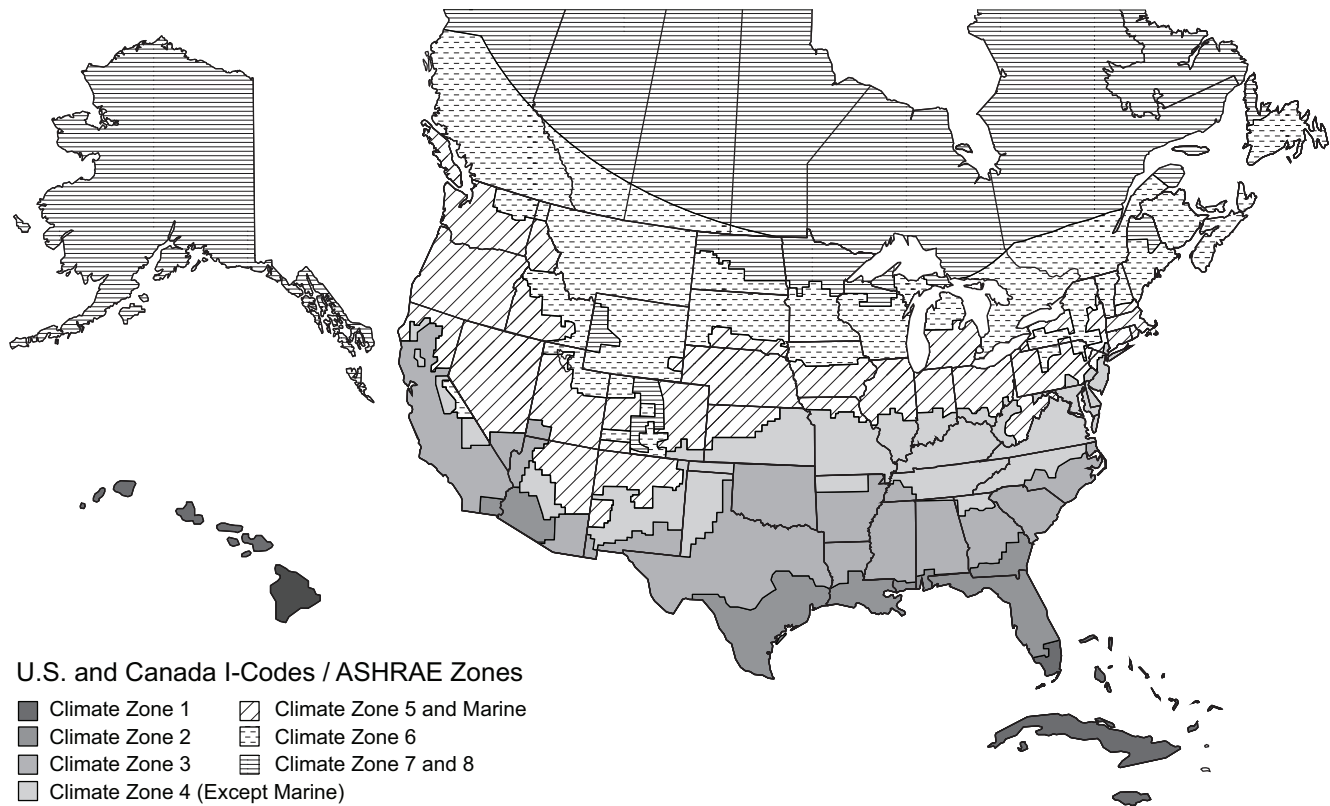

Fig. 91 — U.S. and Canada Climate Zones
- a. See Fig. 91 for map of U.S. and Canada climate zones.